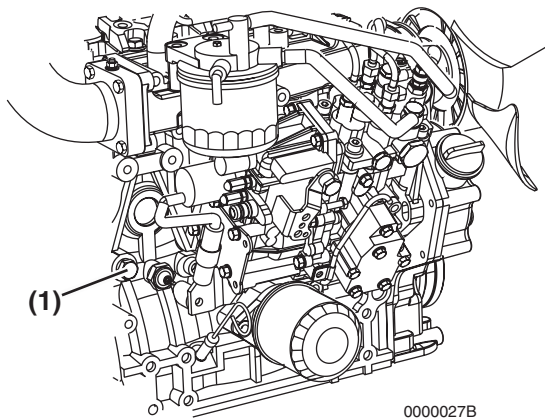

Figure 8-6
- On models not equipped with an oil cooler, remove the coolant drain plug (**Figure 8-6, (1)**) from the engine block.